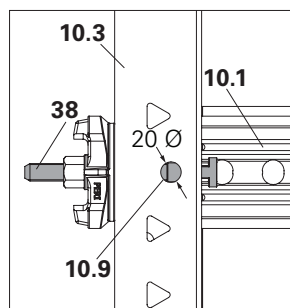

Fig. A4.09a
1. Install the HSA Corner Connector DW 15 (38) through the hole (10.9) of Panel HSA (10) into the anchor strut (10.1) of other Panel HSA (10).
2. Put the Wingnut Counterplate DW 15 (30) at the other end and hammer it to ensure that it is perfectly tightened with the anchor strut (10.1)
Once in position, there should not be any gap between HSA Corner Connector DW 15 (38) and panel frame (10.3). (Fig. A4.09a)